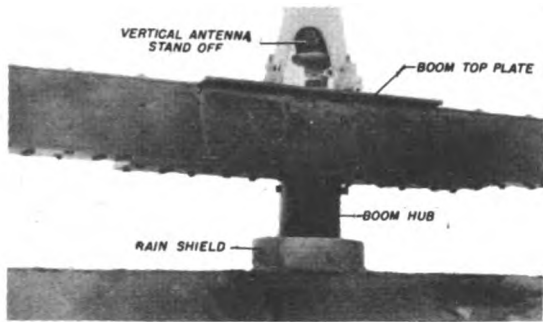

Figure 4—Boom Assembly
b. *Boom.* The boom is a 4-inch square aluminum duct 22-feet long which contains a transposed transmission line connecting the two loops which are mounted vertically at either end. Mounted at the center of the boom is an insulator for supporting the vertical antenna for the monitor receiver, see figure 4.